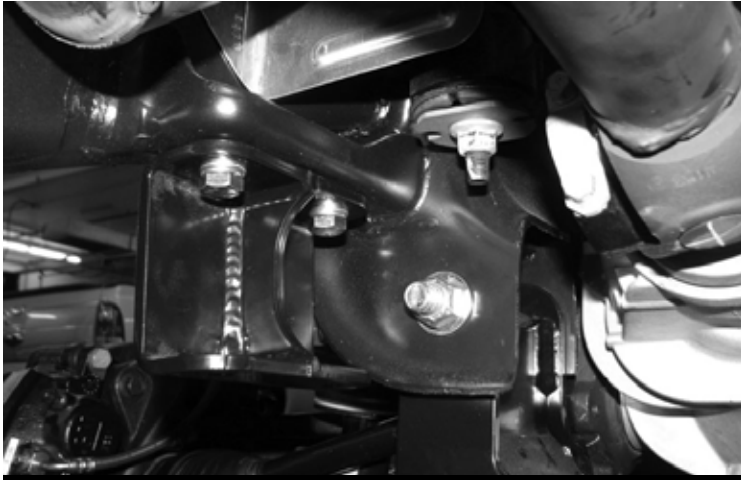

FIGURE 78 - STEP 48
48. Locate FT20658BK (sway bar drop brackets), and M10-1.5 x 30 bolts and washers. Install the new brackets with the flat side towards the outside of the vehicle. Torque to 58 ft-lbs. **SEE FIGURE 78**